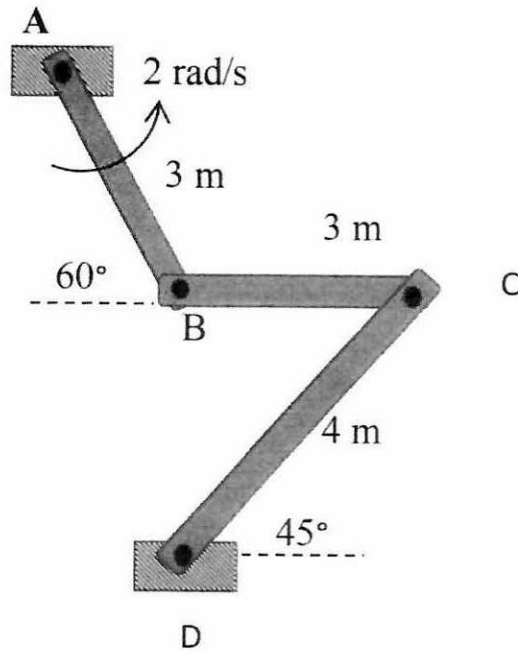

Figure Q6(b)
- (b) A simple mechanism system for four bar linkage A, B, C and D is shown in **Figure Q6 (b)**. Length of crank AB is 3 m and has an angular velocity of 2 rad/s rotate counter clockwise. Connecting link BC is 3 m and follower CD is 4 m. At the position of crank AB is 60° and follower CD is 45° refer to horizontal, determine angular velocities of connecting link BC and follower link CD. (14 marks)